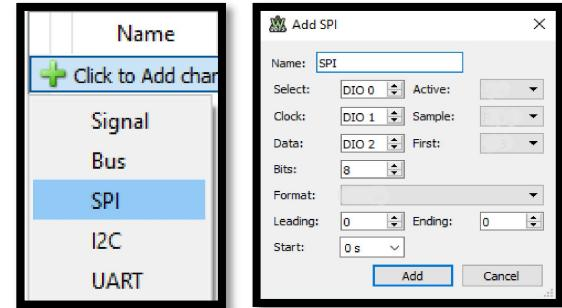

Figure 1. (left) Accessing the SPI function within the *Logic* feature; (right) the *Add SPI* menu.
To verify that the SPI module is correctly transmitting **0x2A**, you will view all appropriate SPI signals with the *SPI* digital bus analyzer function of the *Logic* (LSA) feature within *Waveforms*. See the left image of Figure 1 to determine where this feature may be accessed from within the *Logic* feature.
As shown in the right image of Figure 1, the SPI function can be used to view the three relevant SPI signals: **Select** (the signal used to enable a student device, usually denoted as *chip select [CS]* or *student select [SS]*), **Clock** (the clock signal used to synchronize any SPI connected devices, usually denoted as *serial clock [SCK]*, or something similar, such as *serial port clock [SPC]* in the IMU datasheet), and **Data** (the signal used to transmit data to or receive data from a student device, which can be represented by several common names, e.g., *Master-Out-Student-In [MOSI]*, *Master-In-Student-Out [MISO]*, *Student Data In [SDI]*, and *Student Data Out [SDO]*).
- 2.5. Within the *Logic* feature of *Waveforms*, select *SPI* from the “Click to Add channel” dropdown menu, depicted in the left image of Figure 1. You will be prompted with the *Add SPI* menu, an example of which is depicted in the right image of Figure 1. Configure the relevant settings. Refer to the relevant schematics, if necessary.